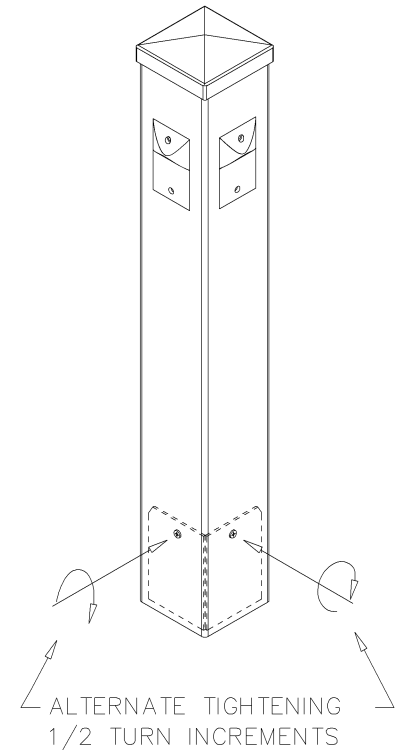

FIG. 2
5. **INSERT** the set screws and tighten until the screw heads contact the surface of the tube. Continue alternately tightening each set screw a half turn until tube is drawn securely into corner of mounting base. (See Figure 2)